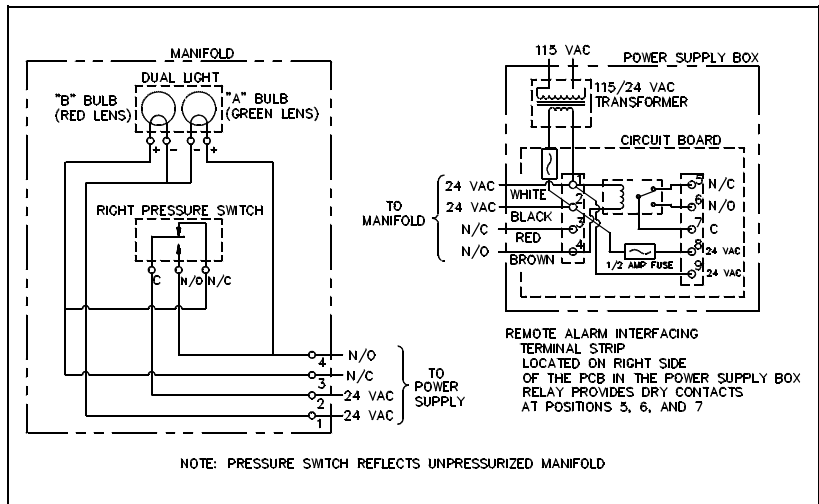

FIGURE 8
5. The manifold wiring schematic is shown in figure 8.